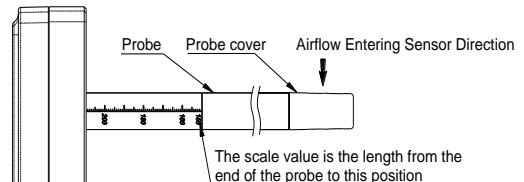
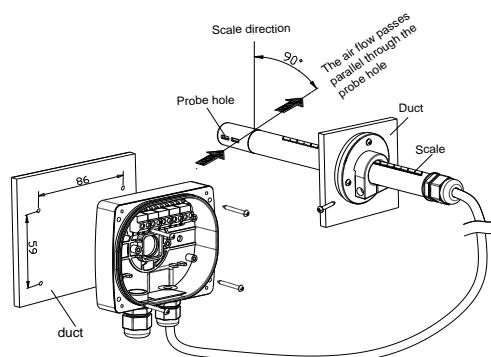

Fig 2
Fig 5
(2) The depth of the probe insertion: the probes have scales as shown in Fig 2 below. The scale value is the length from the end of the probe to this position. It means, the scale value can be seen and read from outside is the depth of the inserted part.
(3) The flow direction and angle: It was calibrated in standard wind tunnel with fixed air flow direction in factory. So, it should be installed with the same flow direction, as Fig 2 and 3 below. The flow direction should be exactly 90° angle with the scale line on the probe, as shown in Fig 5.
Housing installation: open the front cover, as shown in Fig 5 below, and fix the base on the installation surface with 4 screws.